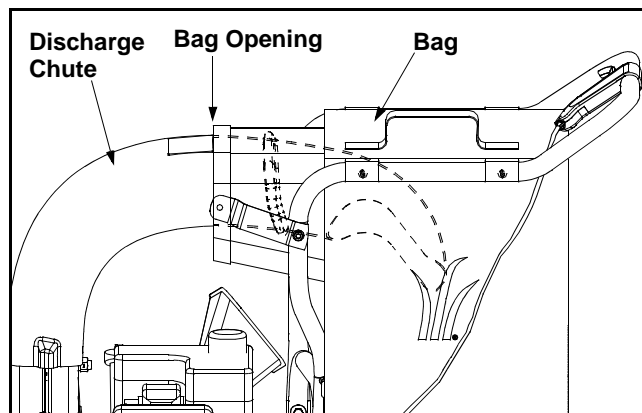

Figure 3
- Place bag under of upper handle assembly and slip the front opening on the bag over the discharge chute, making certain it is over the rim on the discharge chute. See Figure 3.